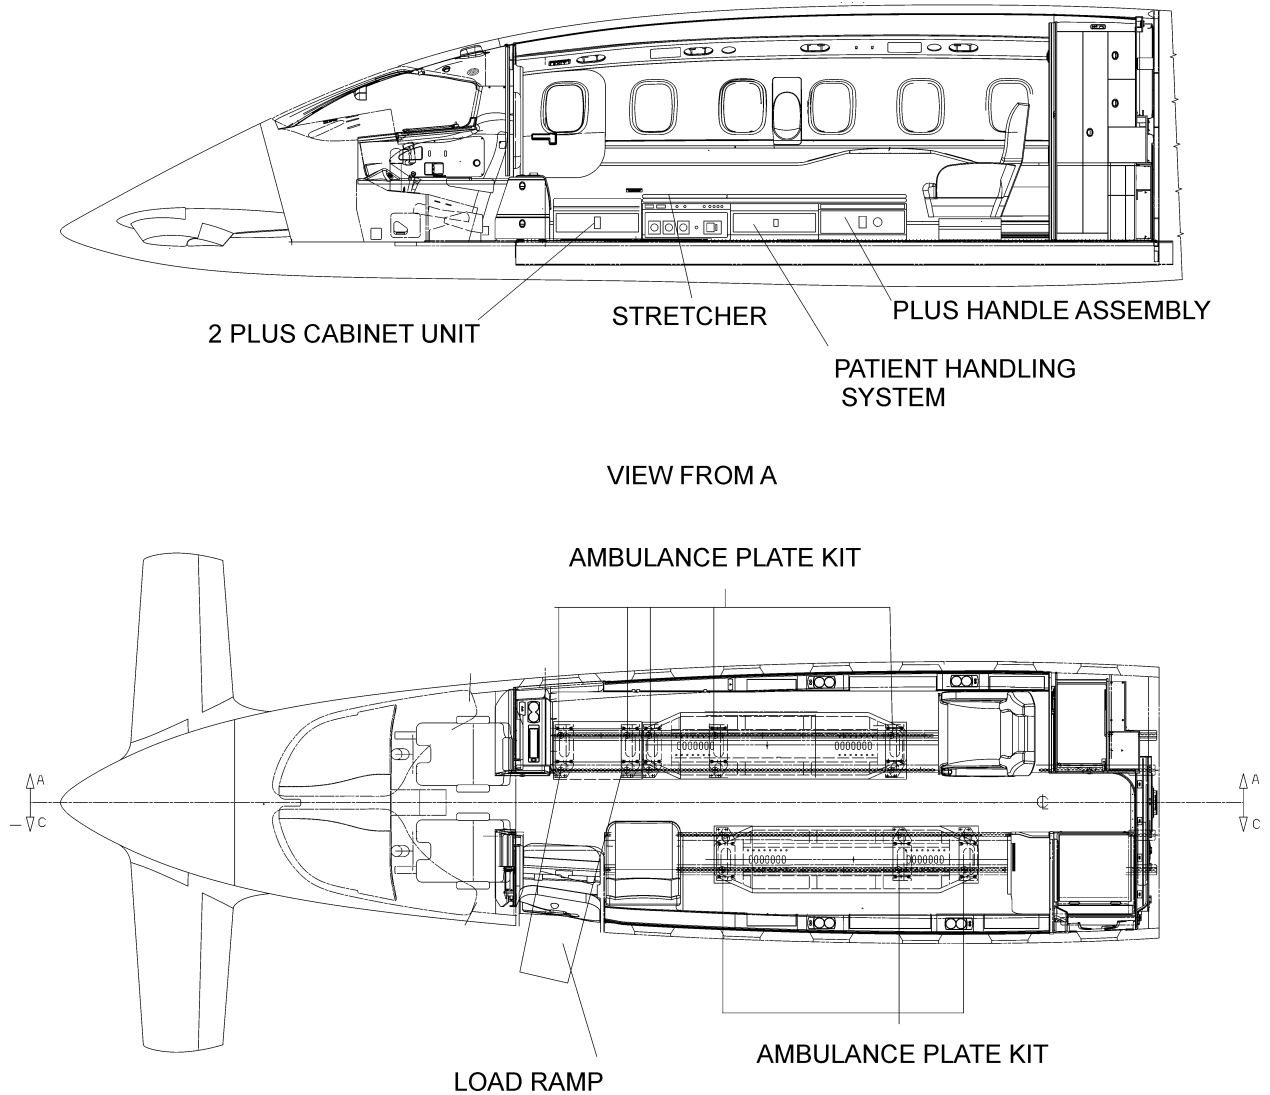

Fig. 16 - Corporate 1 A2 Configuration
Q. The Corporate 1 A2 passenger compartment (Ref. to Fig. 16).